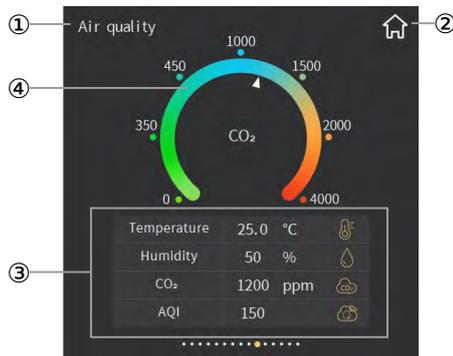

Fig.2.9.1
- ① This area displays the page description identification of Air Quality Display function page;
- ② Return to the home page by touching this icon;
- ③ This display area is the air quality parameter display list, can be configured through parameter; AQI, temperature, humidity, PM2.5, PM10, VOC, CO₂, brightness and wind speed can displayed by parameter configuration, an interface can be configured with up to four displays.
- ④ This ring strip is used for displaying the air quality parameter value; Touch one of the items in the display list at the bottom of the interface, the pointer on the ring strip ④ will point to the corresponding scale, such as Fig.2.9.1 above is the display effect of CO₂, Fig. 2.9.2 is the display effect of temperature, Fig. 2.9.3 is the display effect of AQI and Fig. 2.9.4 is the display effect of humidity.